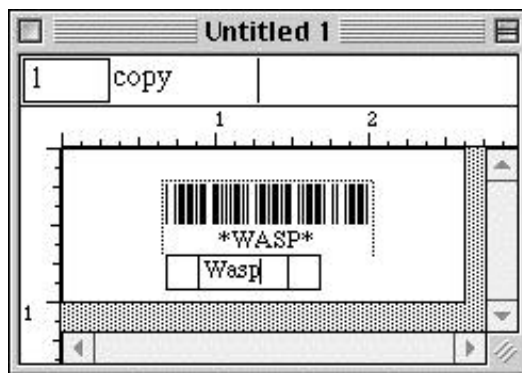

Figure 2-8 Creating Bar Code
8. When the bar code object first appears, the cursor is in edit area 2. To create a bar code, type in text. As you type, text appears in the edit area and the bar code is automatically created in the open area above the edit areas. See Figure 2-8.